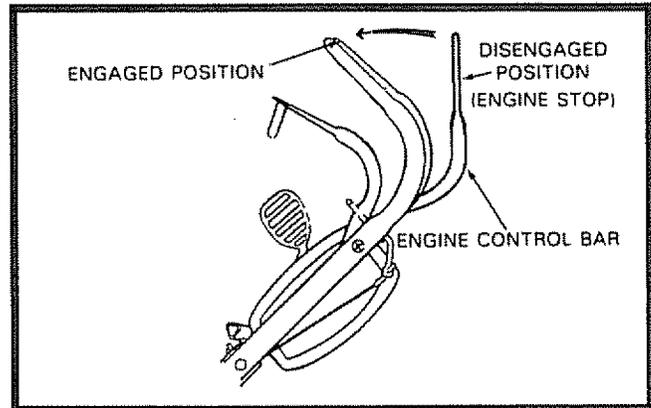

FIG. 9
- Your lawn mower is equipped with an Operator Engine Control Bar which requires the operator to be positioned behind the Lawn Mower Handle to start and operate the lawn mower (See Fig. 9).
- To remove Grass Catcher, release Engine Control Bar to stop engine (See Fig. 9).